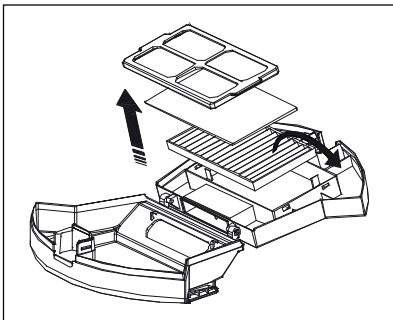

Fig. 10
- 4) Grasp the two tabs on the sieve filter and pull it off the EPA filter compartment **7**. Pull the EPA filter **7** and the foam filter by the top out of the compartment (see Fig. 10).